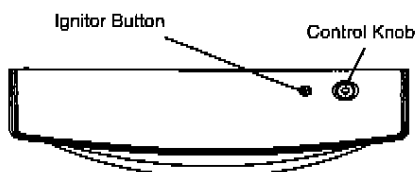

Figure 18. Control Knob and Ignitor Button Location
4. Wait five (5) minutes to clear out any gas. Then smell for gas, including near the floor. If you smell gas, STOP! Follow "B" in the safety information, page 11, column 1. If you don't smell gas, go to the next step.
5. Turn control knob counterclockwise  to the PILOT position. Press in control knob for five (5) seconds (see Figure 18).
**Note:** If pilot goes out, repeat steps 3 through 7. This heater has a safety interlock system. Wait one (1) minute for system to reset before lighting pilot again.